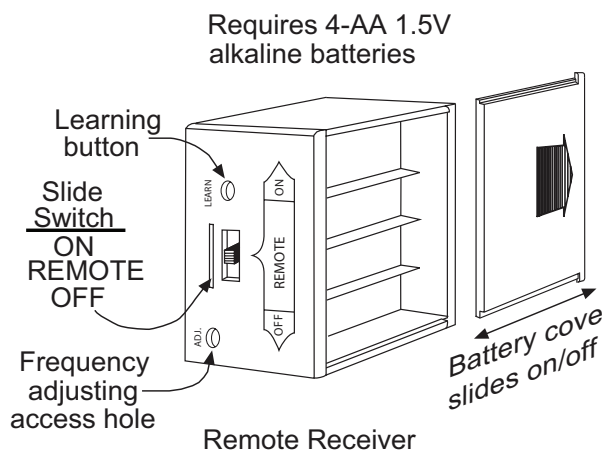

Figure 24 - Attaching Batteries to Receiver
2. Locate the battery cover on the back of the receiver (see **Figure 24**).